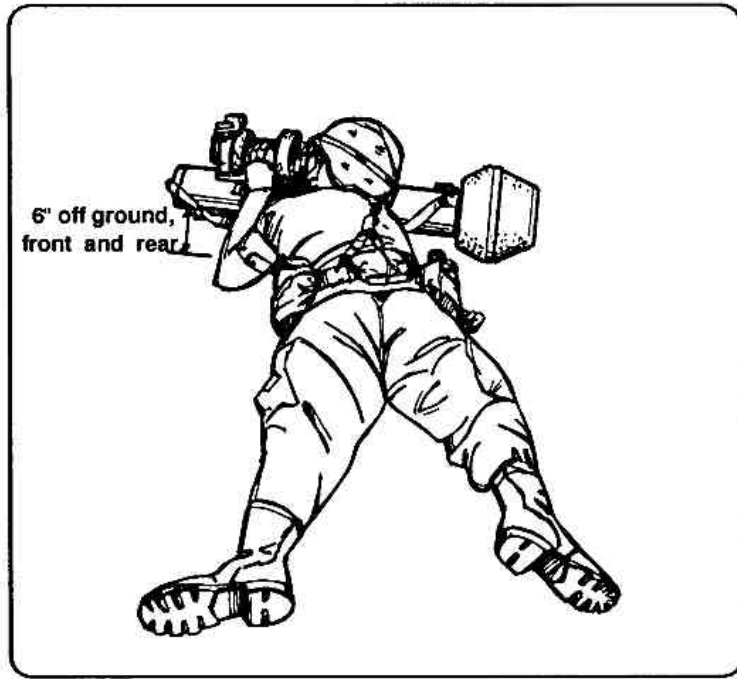

**Figure 7-5. Correct eye and hand positions.**
- (1) Kneel on both knees and spread them a comfortable distance apart. Position the bipod so that you have to lean forward to position the eye in the eye guard.
- (2) Grasp the tracker as previously described. Maintain the same upper body position as in the other firing positions. Place the round on the shoulder muscle, keeping it tight against the neck (Figure 7-5).